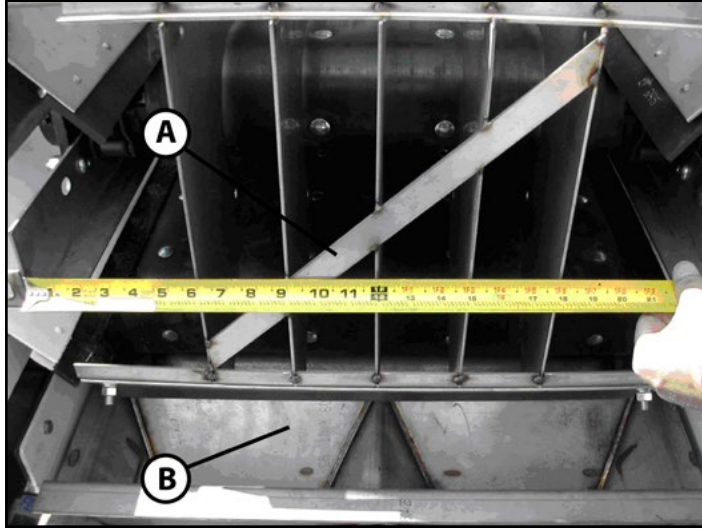

Figure 19A - MULTAPPLIER Hillside Divider (Style I)
Style I MULTAPPLIER - Remove hardware from rear two chain shield holes on each side of MULTAPPLIER and set aside. Install MULTAPPLIER Hillside Divider (A) over conveyors and attach using chain shield hardware. Adjust Hillside Divider so that the middle divider is centered over both conveyors and the Material Divider (B) as shown in Figure 19A. Tighten hardware to recommended torque.